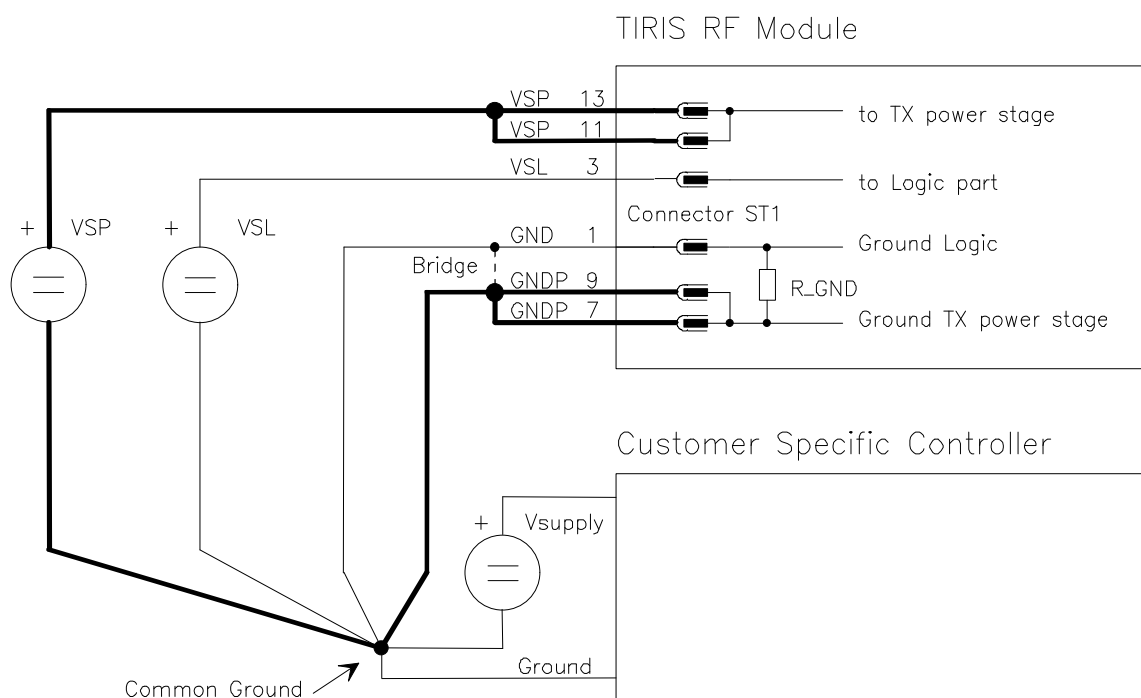

Figure 23: External Ground Connection (GND to GNDP)
1. Possibly high resistive GNDP pins would cause a voltage drop across these connector pins, because of the high transmitter power stage current (this does not apply to the supply pins of the logic part). If the grounds were connected to each other internally, this would also lift the internal logic ground and cause logic level compatibility problems with the controller unit (see also figure 23). This is avoided, by connecting the grounds GND and GNDP externally.
2. In order to provide higher flexibility with long supply lines. Long VSP supply lines between the RA-RFM and the controller unit cause a voltage drop across this supply line (again because of the high transmitter power stage supply current). This voltage drop would also lift the logic ground and cause logic level compatibility problems with the controller unit. This can again be avoided by connecting the grounds externally in any of three different ways (see figure 23).
- a. For cable lengths of up to 0.5 m between the RA-RFM and controller unit, the RFM ground pins GND and GNDP must be connected at the controller unit, as shown in figure 23. Here the grounds for the VSP, VSL and the controller unit supply are all connected together at the common ground.
- b. For cable length between 0.5 m and 2 m, the RFM ground pins GND and GNDP must be connected together at the controller unit in order to avoid logic level compatibility problems caused by the voltage drop across the VSP supply lines (see figure 23).
In this case, to avoid problems with difference voltages between GND and GNDP, these pins must always be connected directly at the RA-RFM. A shorting bridge is necessary as close as possible to the RA-RFM for this purpose, as shown in figure 23.